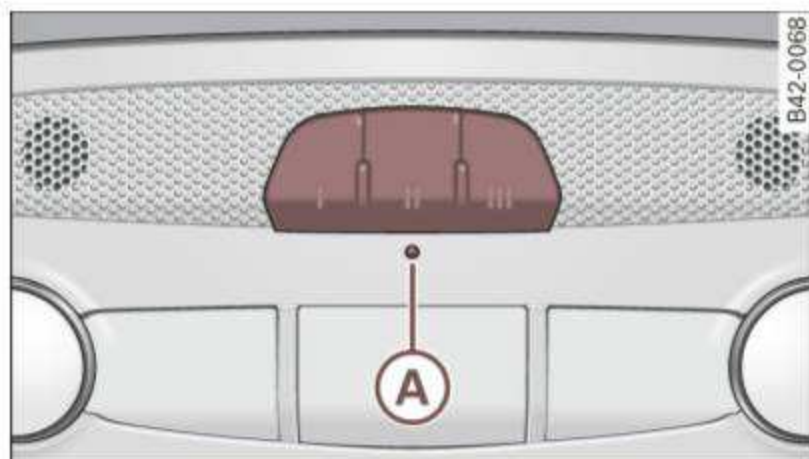

Fig. 82 Overhead console: HomeLink® keypad
4. Press and hold the two outside HomeLink® buttons  and  for approximately 20 seconds until indicator light  ⇒ page 101, fig. 82 begins to flash. Then release both buttons. Do not hold the buttons for longer than 30 seconds.
10. Press and hold the trained HomeLink® button and observe the indicator light (A) ⇒ *page 101, fig. 82.*